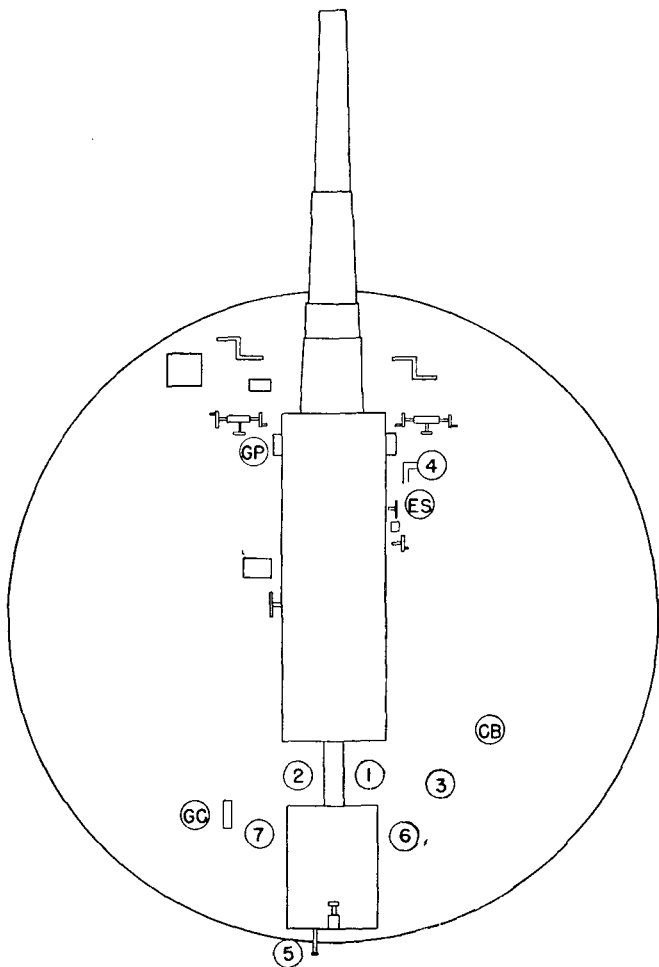

Figure 4. Posts of members of the gun squad at completion of the command DETAILS, POSTS.
(1) Training and efficiency of the personnel of his squad.
(2) Condition of the materiel under his charge.
(3) Preparation of the piece for firing, including camouflage discipline and gas discipline when necessary.
(4) Firing the piece.
(5) Observance of all safety precautions pertaining to the service of the piece.
(6) Police of the emplacement.
b. Having posted his detail (fig. 4) and given the command EXAMINE GUN, he personally makes an inspection of the gun, carriage, and other materiel, giving particular attention to the recoil and recuperator systems, firing mechanism, recoil parts lock and other safety devices, and the oiling of the various bearings.